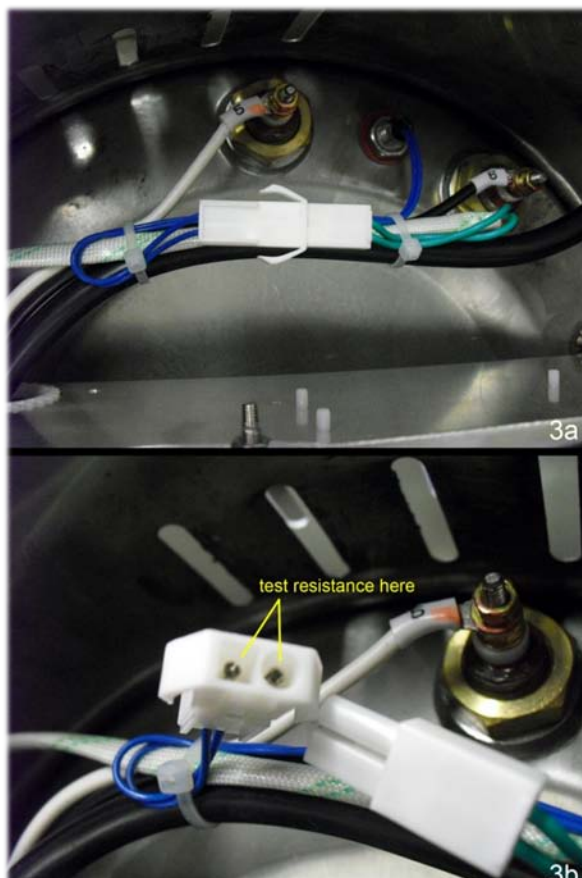

Figure 3a (top), 3b (bottom)
3. Locate the white connection along the sensor wires (See Figure 3a).